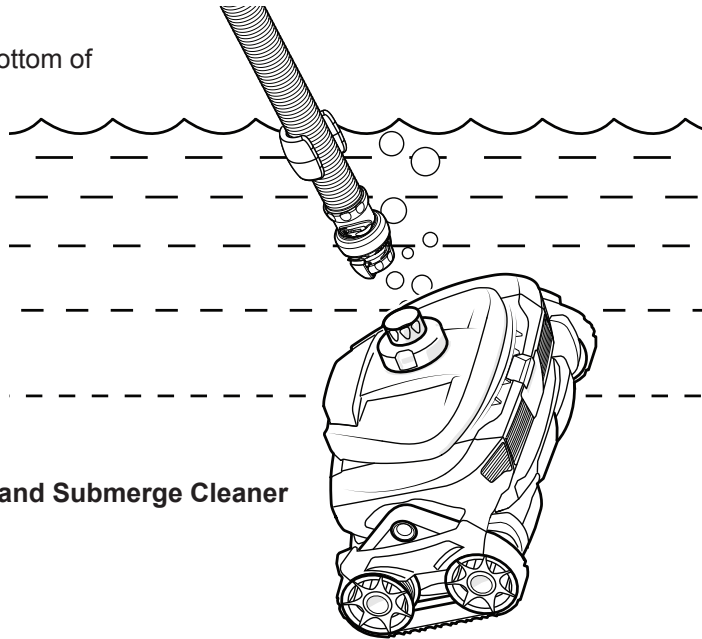

Figure 7. Connect Hose and Submerge Cleaner
2. Submerge the hose and flood with water (no bubbles visible) (Figure 7).